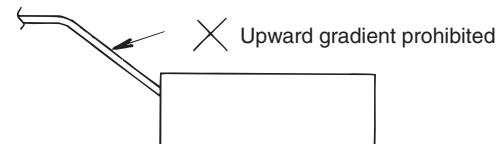

Fig. 3-66
- Do not install the pipe with an upward gradient from the connection port. This will cause the drain water to flow backward and leak when the unit is not operating. (Fig. 3-66)